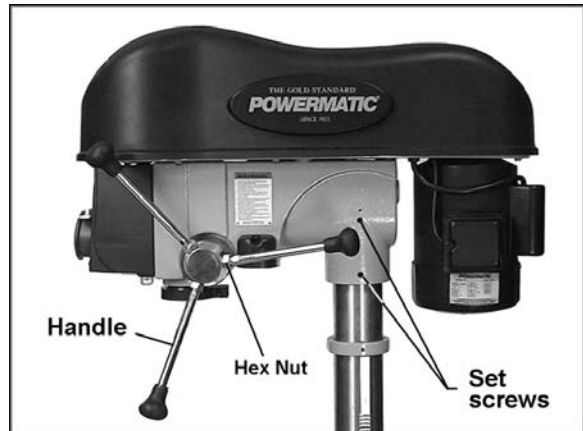

Figure 7
Referring to Figures 7 and 8:
1. With the help of an assistant, mount the head assembly to the column, and tighten the two set screws with a 5mm hex wrench. See Figure 7.